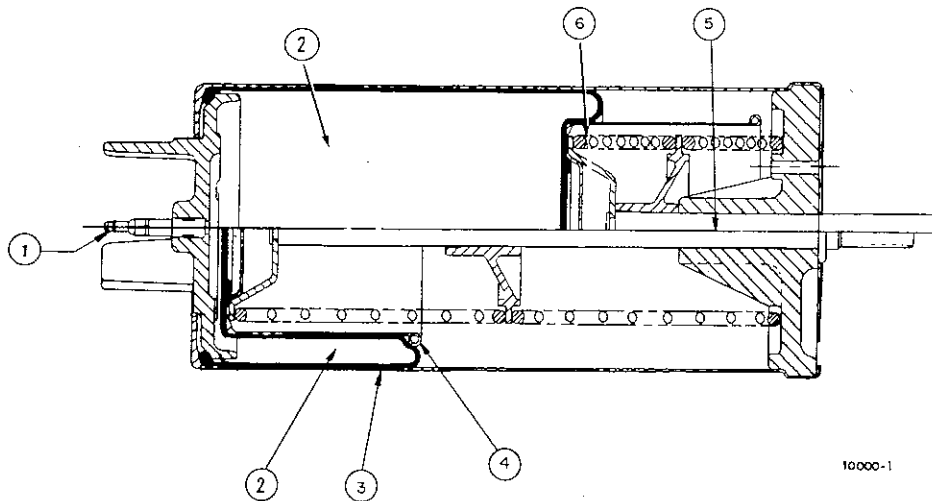

Fig. 3. MP909 Cutaway View.
In a standard damper application, air from the branch line of the controller enters the chamber (2) of the MP909 (Fig. 3) through (1). On an increase in air pressure, the diaphragm (3) strokes the piston (4) against the opposing force of the spring (6) and damper. The stroke stops when the spring and piston/diaphragm forces are equal. On a decrease in air pressure, the spring returns the shaft, piston, diaphragm, and damper to their rest positions.